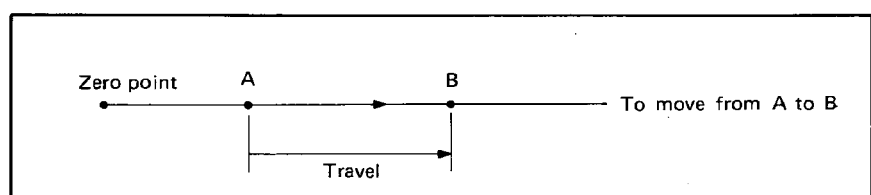

Fig. 2.6 Incremental Method
(15) Positioning mode
- In incremental mode positioning, positions are reached with reference to the previous position. (See Fig. 2.6.)